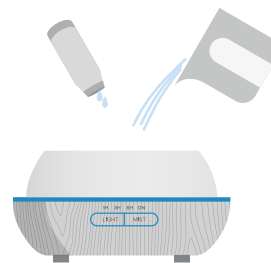

Fig. 3
- 3 Pour water and essential oil into water tank of the Oil Diffuser. DO NOT fill over the marked 'MAX' 400ml line inside of water tank. DO NOT use boiling water. DO NOT fill while powered on. It is recommended to add 2-3 drops of essential oil for each 100ml of water. (Fig. 3)